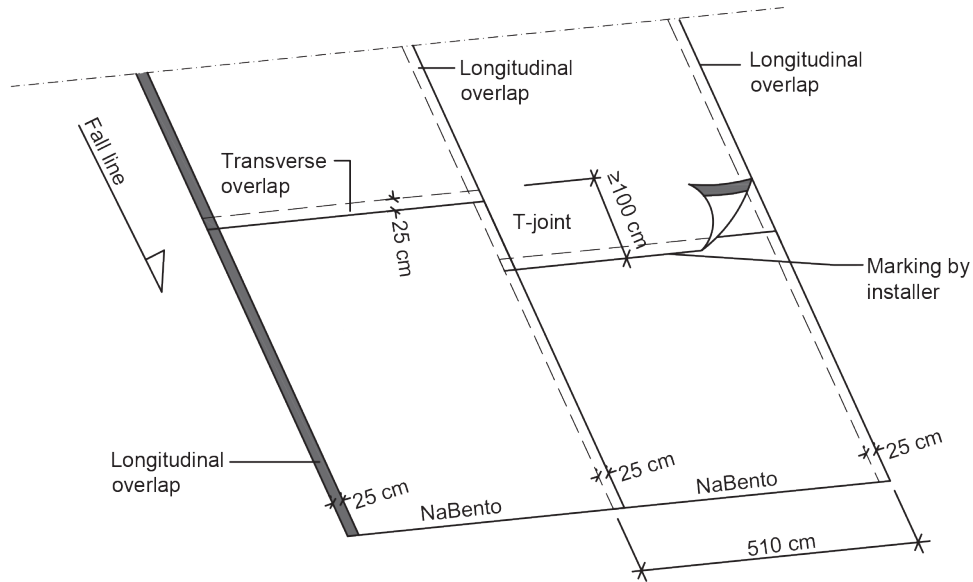

Fig. 7: View of the NaBento overlaps
- T-joints are to be staggered by 1.0m (Fig. 7). Cross-joints are not permitted.
The overlaps of NaBento are at least 25 cm (Fig. 7). The longitudinal overlaps (parallel to the panels) have no roughness layer and are protected on the top and bottom of the roll with a 25 cm wide light-colored marking strip (IR types only). Cross overlaps (transverse to the unwinding direction) must be marked at a distance of 25 cm from the edge of the roll. Sharp multi-purpose knives or cordless cutters are suitable for cutting the rolls.